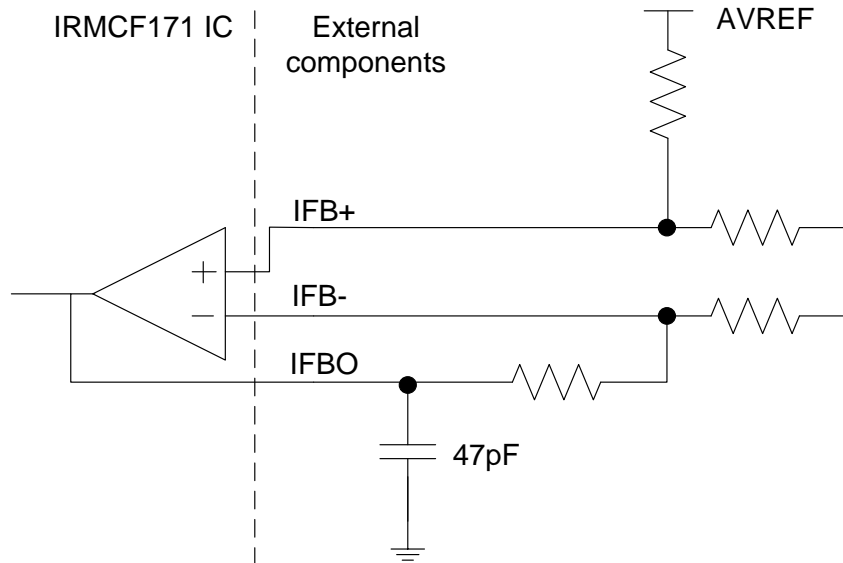

Figure 8 Op amp output capacitor
- (1) Data guaranteed by design.
- (2) To guarantee stability of the operational amplifier, it is recommended to load the output pin by a capacitor of 47pF, see Figure 8. Here only the single shunt current amplifier is shown but all op amp outputs should be loaded with this capacitor value.